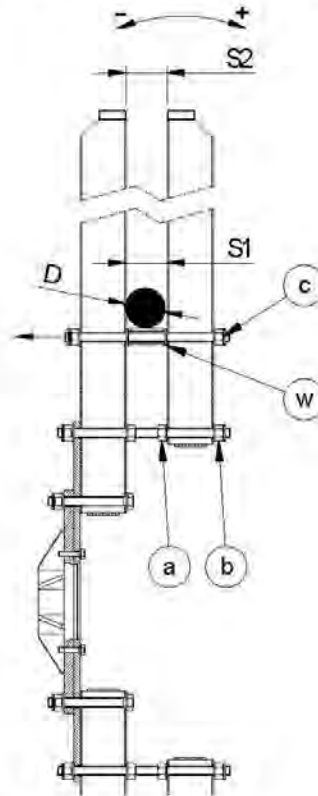

Figure 4 – Spacing adjustment
- 4.3.3 Referring to Figure 4, loosen all nuts (a) and (b) on the external main spokes.